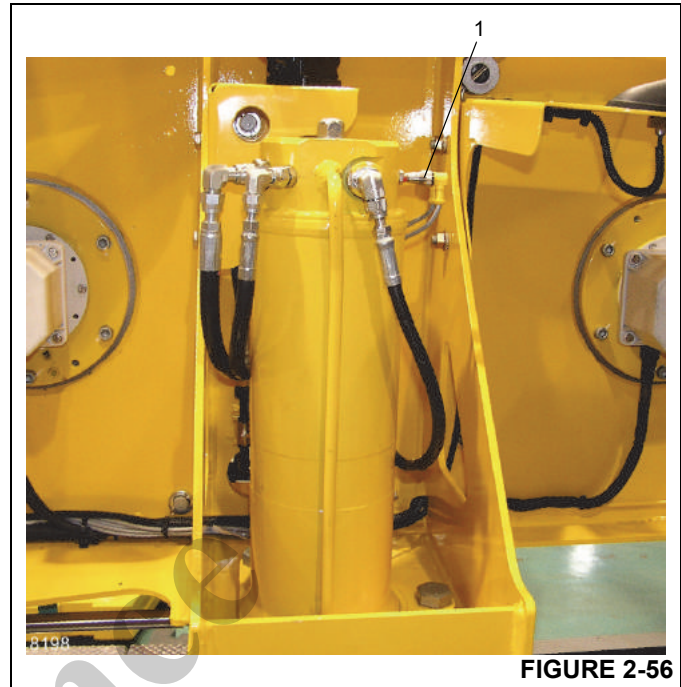
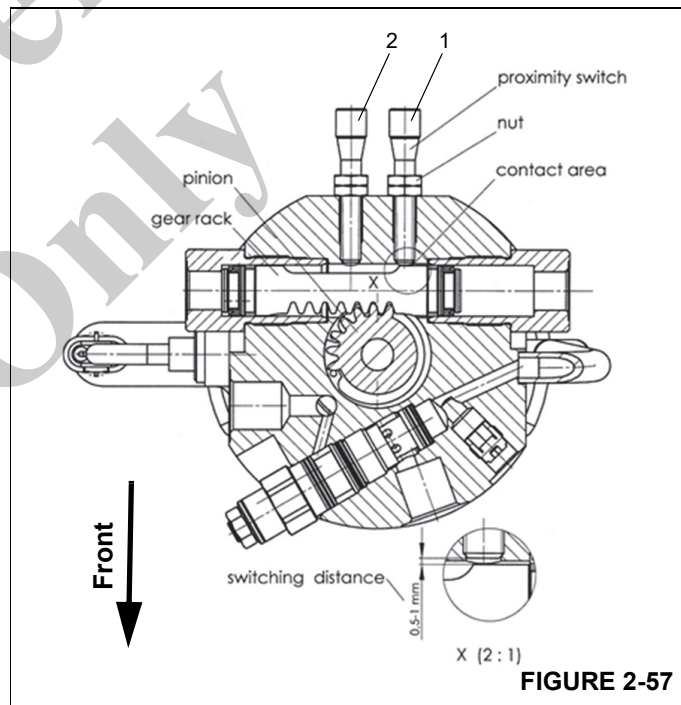

FIGURE 2-56
FIGURE 2-57
The counterweight lift cylinder (Figure 2-56) incorporates a rack and pinion system to rotate the rod to lock and unlock the cylinder in the counterweight.
The two proximity switches are used to signal the ECOS system, Refer to *Section 3, Operating Controls and Procedures* in the *Operator's Manual*, that the cylinder is locked or unlocked. The left proximity switch (1, Figure 2-56 and Figure 2-57) detects the rack in the locked position. The right proximity switch (2, Figure 2-57) detects the rack in the unlocked position.
2. Loosen the locknuts on the left proximity switch (1, Figure 2-56 and Figure 2-57).
4. Unscrew the switch $\frac{3}{4}$ turn, which equals 0.75 mm (0.03 in). The distance between the switch and rack should be 0.5 to 1.0 mm (.02 to .04 in) as shown in Figure 2-57.
2. Loosen the locknuts on the right proximity switch (2, Figure 2-57).